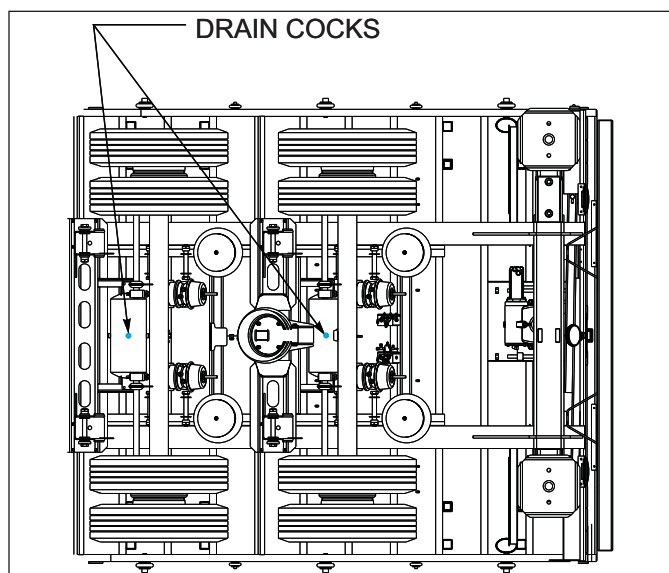

Figure 4-11: Drain Cock Locations
4. Drain air reservoir daily. A drain cock on the bottom of each air reservoir vents the tank to drain collected water and oil. If held open, air pressure in the tanks is relieved, causing the emergency or parking brakes to be applied (*See Figure 4-11.*)